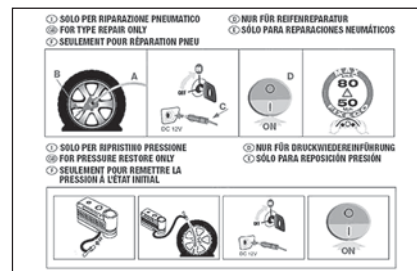

fig. 8
- ☐ instruction booklet (see **fig. 8**), to be used for prompt and proper use of the quick repair kit and to be then handed to the personnel charged with handling the treated tyre;